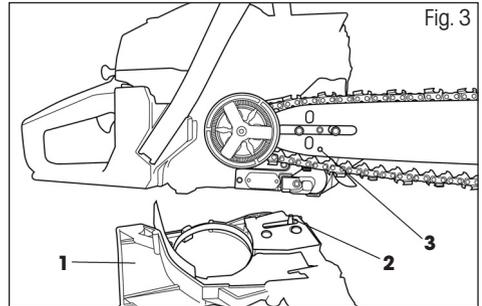
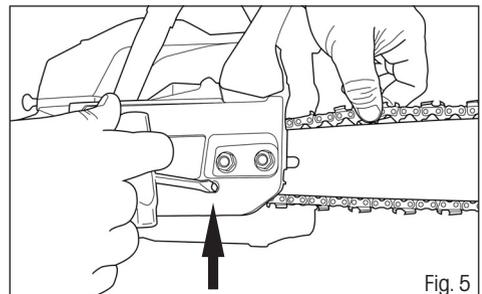

Fig. 3
Fig. 5
- ✿ Loosen two nuts and take off the sprocket cover (Fig. 3, point 1).
**⚠ ATTENTION!** The chain tensioning pin (Fig. 3, point 2) must fit into the hole in the guide bar (Fig. 3, point 3). The position of this pin can be adjusted using the chain tensioning screw (Fig. 5)
- ✿ Tension the chain using the tensioning screw (Fig. 5) and then tighten the sprocket cover nuts using the included tubular wrench
- ✿ Use a screwdriver to turn the chain tensioning screw (Fig. 5). Turn the tensioning screw until the required tension is achieved (you should lift the chain in the middle of the guide bar in the horizontal position to a height of 3 to 4 mm).